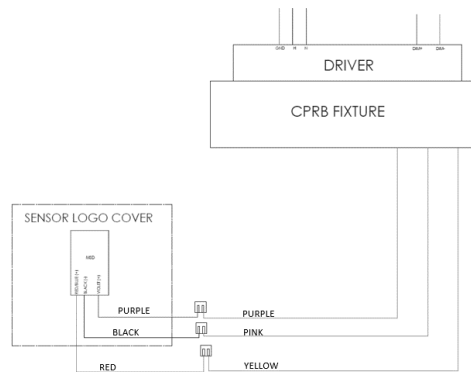

Figure 4
2. Attach wires from the CPRB Fixture to MSD sensor according to the wiring diagram shown in **Figure 4**. Wire locations are also shown on product label.